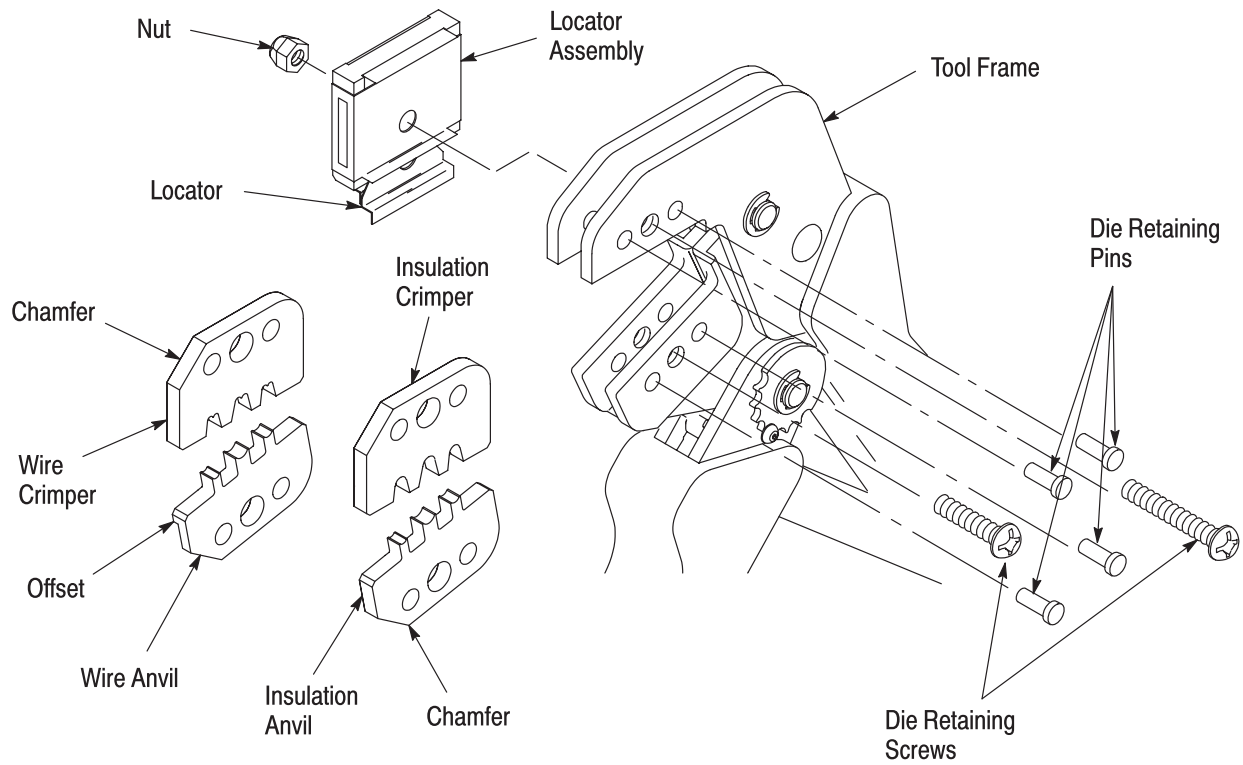

Figure 2
**3. INSTALLATION AND REMOVAL OF DIE ASSEMBLY AND LOCATOR ASSEMBLY** (Figure 2)